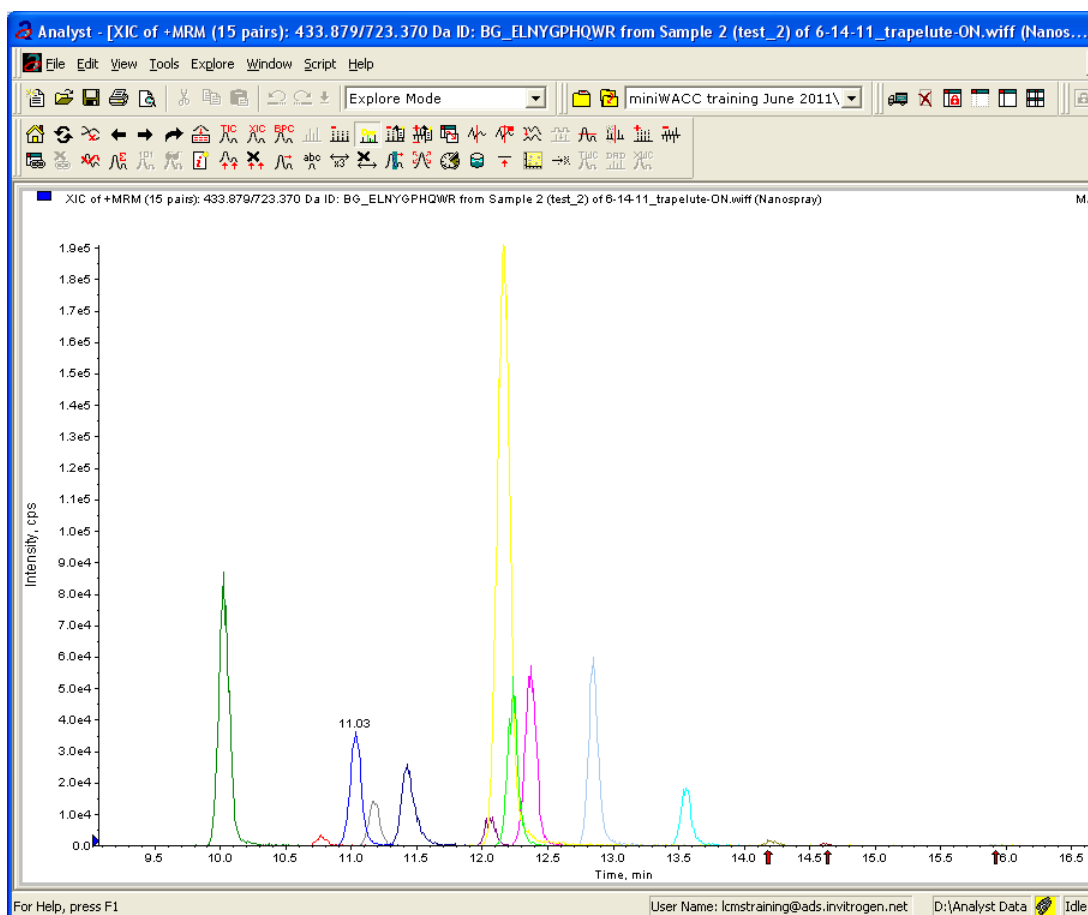

Figure 2-29 Extraction of all peaks—late eluting peaks not present
- If the late eluting peaks are not visible or are very low in intensity, this is usually a sign that the column is getting old. In rare cases, it could mean that the Beta-Galactosidase standard is degraded. See Figure 2-29 for an example of a scan with an older column.